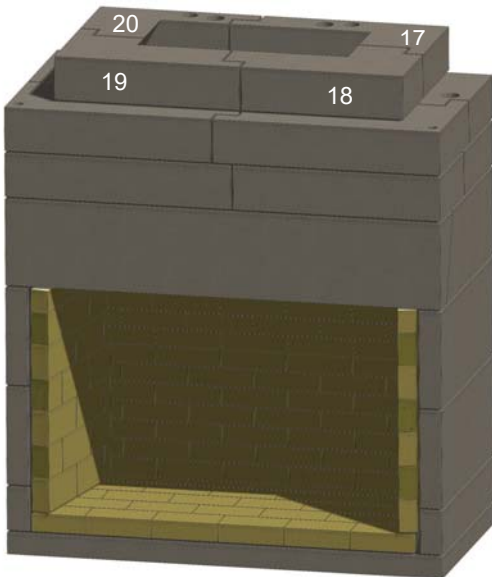

Figure 16. Upper Throat Level
K. Install the first smaller ring of throat components, consisting of items 17, 18, 19 and 20. Ensure the ring is centered. See Figure 16.